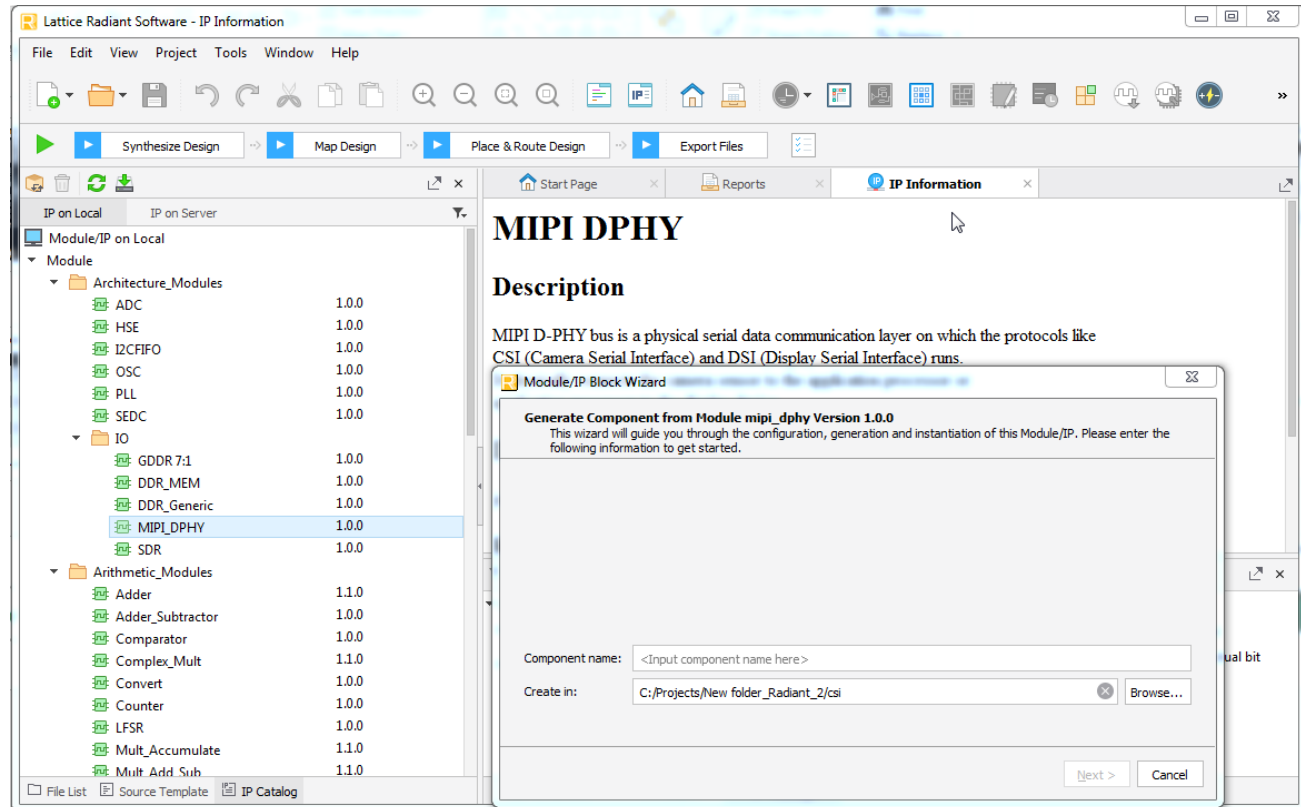

Figure 5.1. MIPI DPHY Selected in IP Catalog
3. Enter instance name and then click **Next** to open the **Module/IP Block Wizard**. Figure 5.1 shows the **Module/IP Block Wizard** for **MIPI_DPHY**.